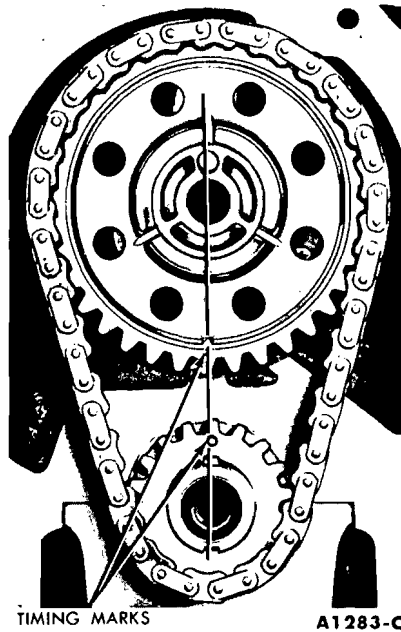
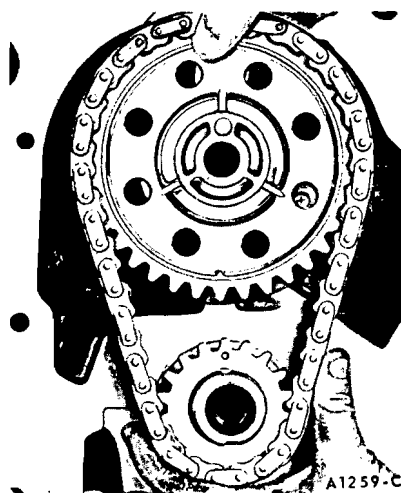

FIG. 43—Aligning Timing Marks
FIG. 44—Timing Chain and Sprocket Removal and Installation
13. Crank the engine until the timing marks on the sprockets are positioned as shown in Fig. 43.
15. Slide both sprockets and the timing chain forward, and remove them as an assembly (Fig. 44).
1. Position the sprockets and timing chain on the camshaft and crankshaft (Fig. 44). Be sure the timing marks on the sprockets are positioned as shown in Fig. 43).
3. Position the sprockets and timing chain on the camshaft and crankshaft (Fig. 44) with the timing marks on the sprockets aligned as shown in Fig. 43.